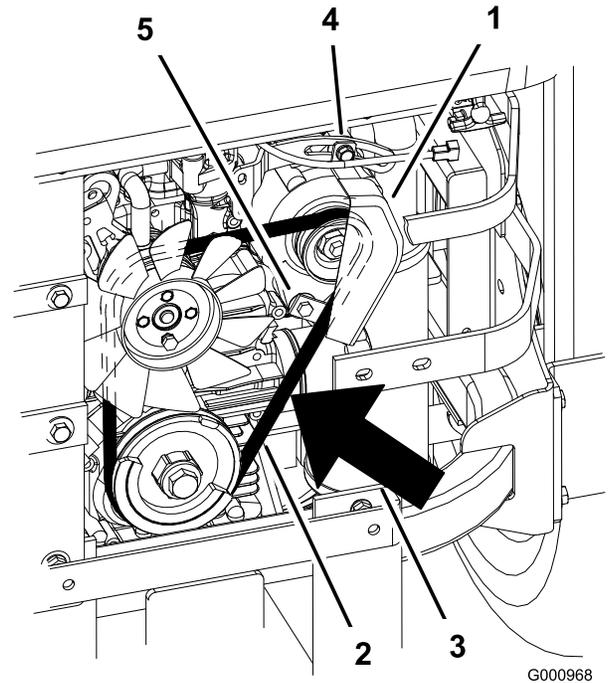

Figure 91
2. Adjust the alternator to the outside until there is 7 to 9 mm (1/4 to 11/32 inch) deflection in the belt between the engine and the alternator pulleys with 10 kg (22.1 lb) of force (Figure 91).
5. If the deflection is correct, tighten the bottom and upper bolt (Figure 91).